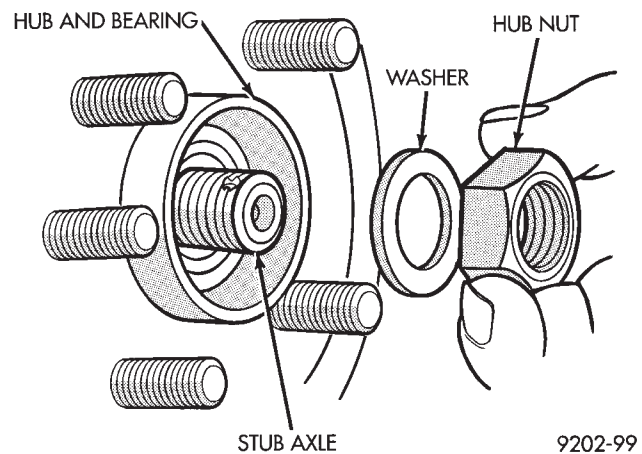

Fig. 16 Install Washer and Hub Nut
(10) Clean all foreign matter from the threads of the stub axle (Fig. 16). Install the washer and hub nut onto the threads of the stub axle and tighten nut.